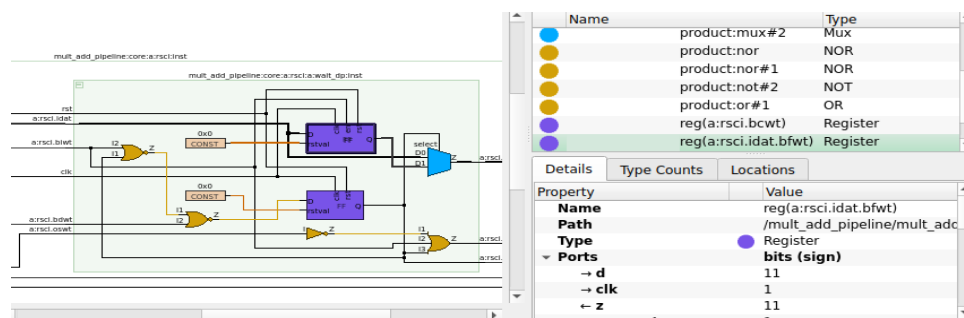

Figure 7. 11-bit register of the *a* input interface.
- 37.3 In the *Schematic*, double-click on *wait_dp:inst* block, which is a 1-element FIFO, to push down into the hierarchy (Fig. 7). Select the top flip-flop (in purple color) and look at its details in the *Objects* view, *Details* tab. This 11-bit register is the 1-element FIFO of the *a* input interface.